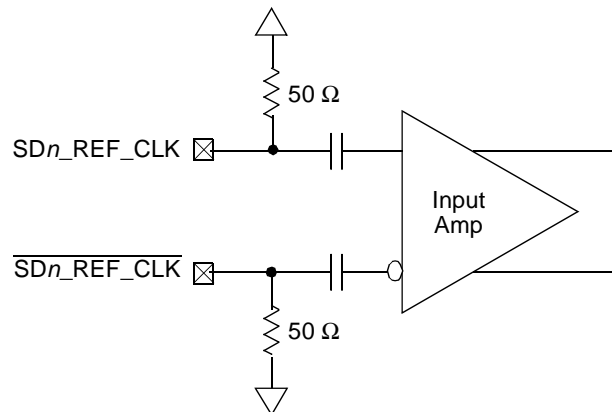

Figure 49. Receiver of SerDes Reference Clocks
Figure 49 shows a receiver reference diagram of the SerDes reference clocks.
- The  $\overline{SDn\_REF\_CLK}$  and  $SDn\_REF\_CLK$  are internally AC-coupled differential inputs as shown in Figure 49. Each differential clock input ( $\overline{SDn\_REF\_CLK}$  or  $SDn\_REF\_CLK$ ) has a 50  $\Omega$  termination to SGND\_SRDSn (xcovvss) followed by on-chip AC-coupling.